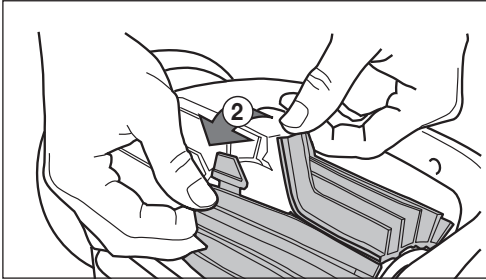

Figure 25. Undo the Tabs of the Brush
2. Separate the edges of the brush and undo the tabs. Remove the worn brushes. See *Figure 25*.